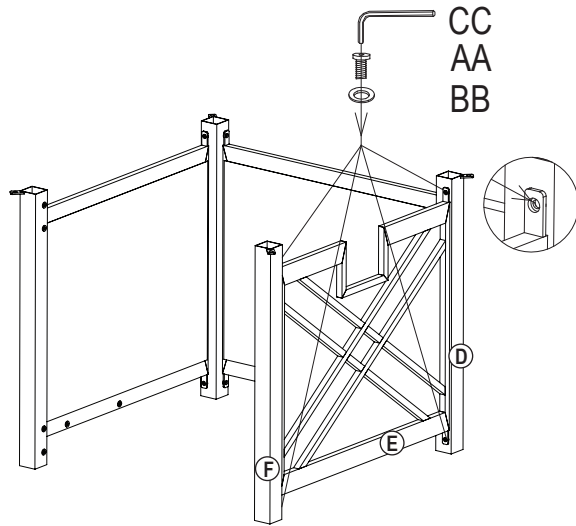

Figure 4
4. Attach right panel (E) to front-right Leg (F) and back-right leg (D) with bolt (AA) and washer (BB) using the hex screw driver (CC), (see Figure 4).